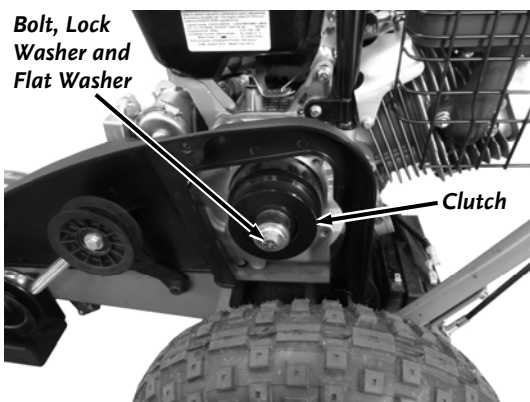

Figure 43
2. Place a 1/2" Wrench onto the Clutch Bolt and rotate the Wrench counterclockwise until you feel some resistance (**Figure 43**).